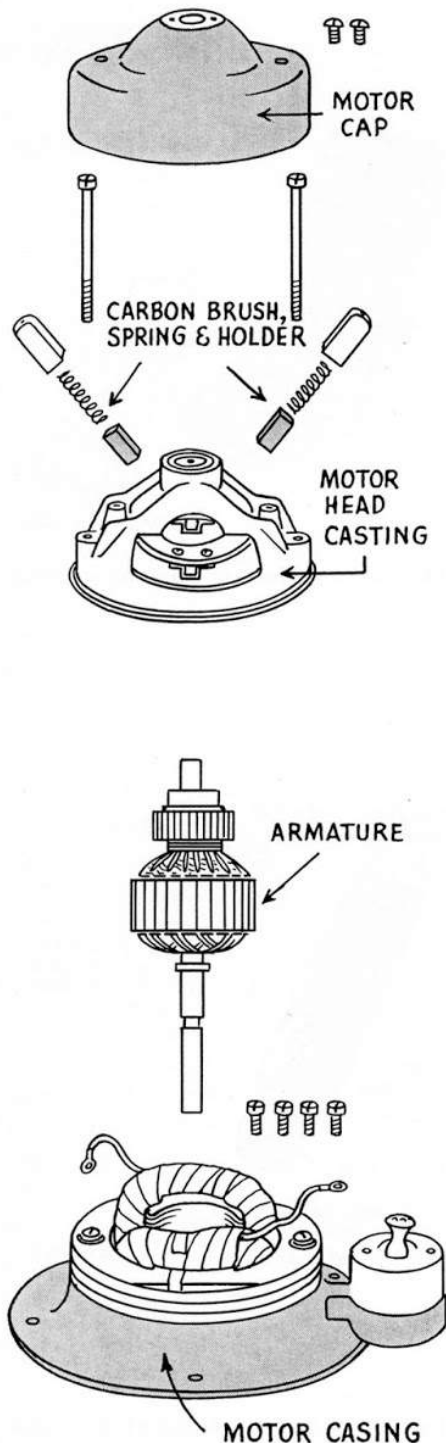

FIG. 37—Type of motor with motor casing and motor bottom plate cast in one piece
1. Figure 37 illustrates a motor with the motor casing and motor bottom plate cast in one piece.